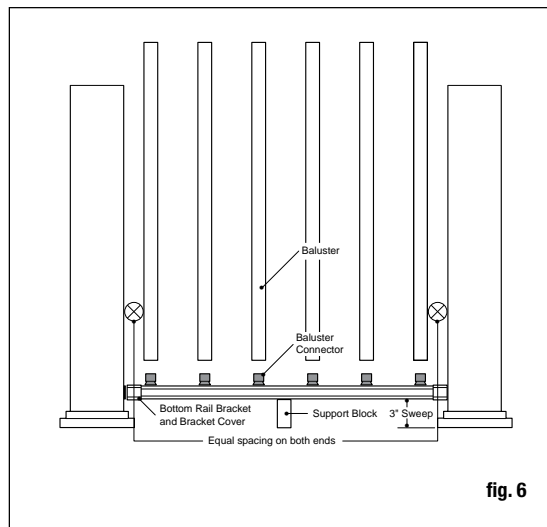

fig. 6
Step 6: Measure the distance between installed post sleeves to determine the length of the top and bottom rails. Place the bottom rail in position next to the posts and adjust so the distance between the first baluster hole and post is greater than 2" and equal on both ends (fig. 6). Mark the rail. Cut the bottom rail. Cut the top rail to the same spacing and length.
Step 8: Find the center of the underside of the bottom rail and attach the baluster connector included with the support block using the screw provided. Check building code requirements for the maximum spacing between deck surface and bottom of rail (sweep). We recommend 3", but it can be less if desired. If necessary, trim the support block to the determined height (fig. 6).
Step 9: Place the line rail bracket covers and line brackets on the ends of the bottom rail. Install the support block and prop the bottom rail between the posts using blocks cut to size. Check the rail for level. Using the line bracket as a guide, mark the screw positions on the post sleeve and rail on both ends. Pre-drill 1/8" pilot holes through the post sleeve and rail. Attach the line bracket to the post sleeve using the #8-15 x 2" - #2 square drive pan head screws and then attach line bracket to rail using #10-16 x 3/4" - #2 square drive pan head self-drilling screws (fig. 6).
Step 11: Place the line rail bracket covers and line brackets on the ends of the top rail. Position the top rail by placing the baluster connectors inside the balusters, while working from one end to the other. Check the rail for level. Using the line bracket as a guide, mark the screw positions on the post sleeve and rail on both ends. Pre-drill 1/8" pilot holes through the post sleeve and rail. Attach the line bracket to the post sleeve using the #8-15 x 2" - #2 square drive pan head screws and then attach line bracket to rail using #10-16 x 3/4" - #2 square drive pan head self-drilling screws (fig. 6).